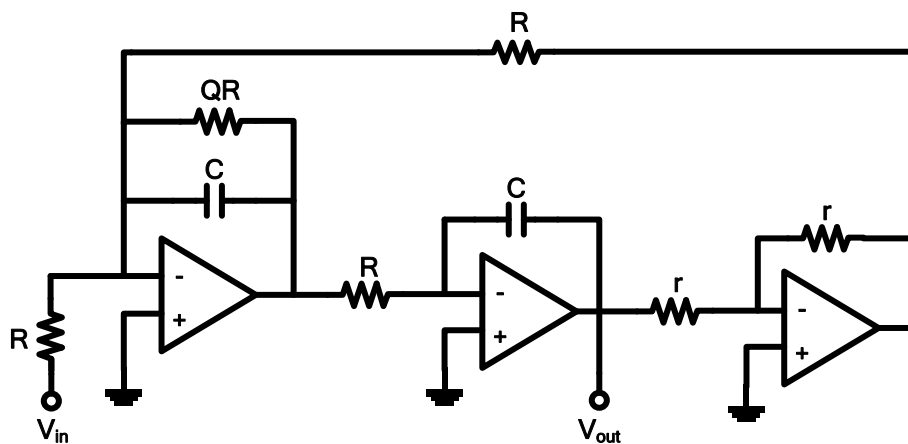

Fig 1. Tow-Thomas Biquad Low Pass Filter
- (a) Using the Tow-Thomas biquad shown in Fig. 1 as your building block, design an active RC Butterworth LPF. Make sure $R \leq 2M\Omega$ and $10pF \leq C \leq 100pF$ in your circuit.